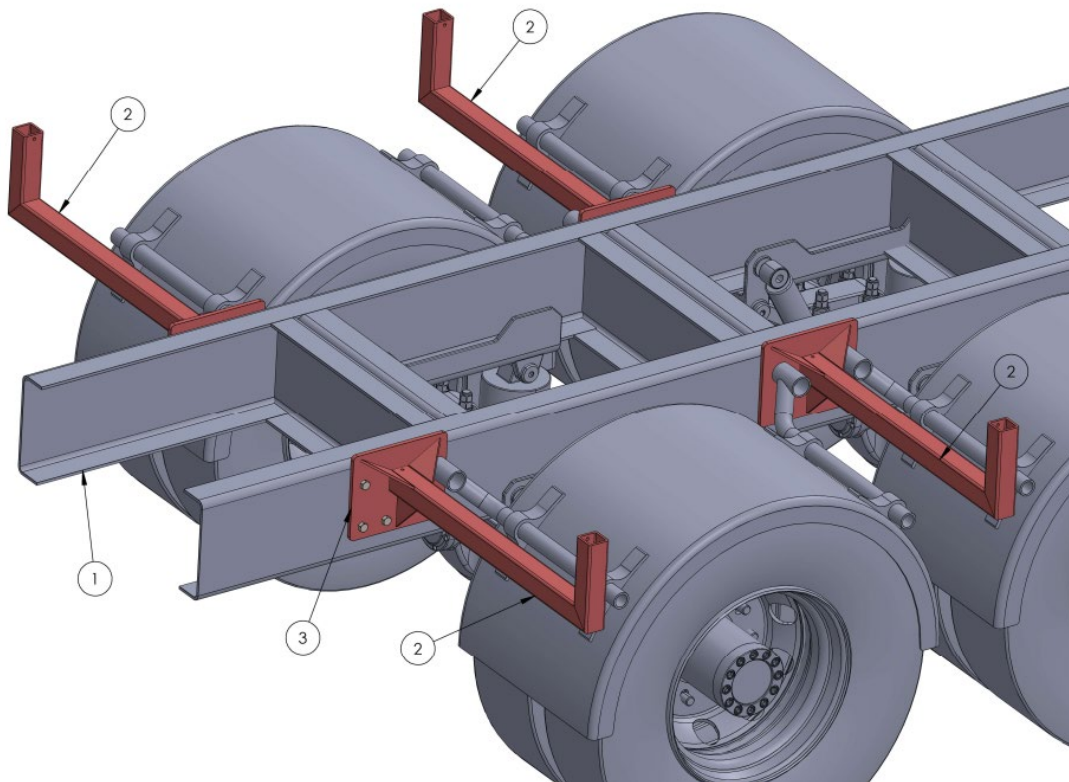

Figure 2.3: Offset Tube Fish Plates and Gusseting Requirements
Weld and Bolt offset mounting tubes (2) to the frame rails (1) and add gusseting to fish plates (3); example shown in *Figure 2.3*. Do not use fasteners under Grade 8. 2 x 6 inch gussets are provided in the kit for use on offsets.